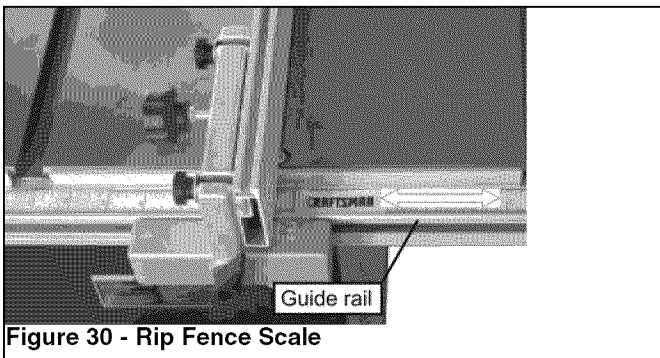

Figure 30 - Rip Fence Scale
- To adjust the rip fence scale loosen the four wing screws below the table and move the scale and the guide rail sideways to adjust. Re-tighten the wing screws when the adjustment is correct (see Figure 30).